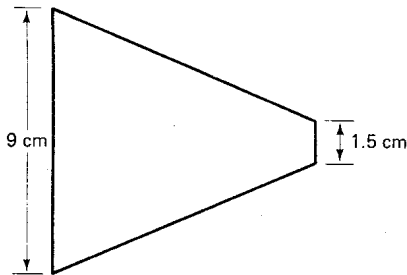

Fig. 3-24
3.44 Determine the modulation factor and percent modulation of the AM wave which produces the trapezoidal pattern shown in Fig. 3-24.